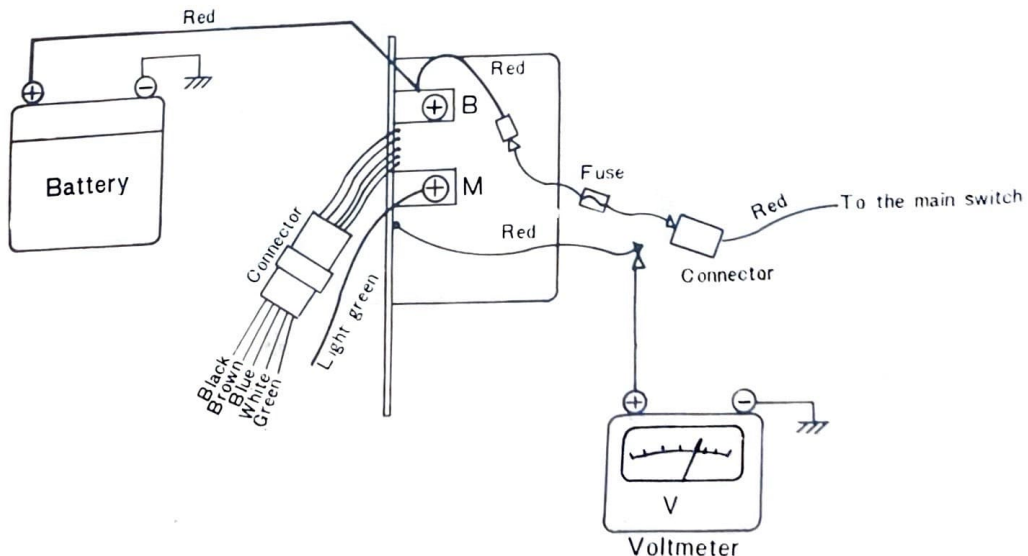

Fig. 5-5-1
3. Your regulator is correct if the testor reads 15.8-16.5V. (Fig. 5-5-1)